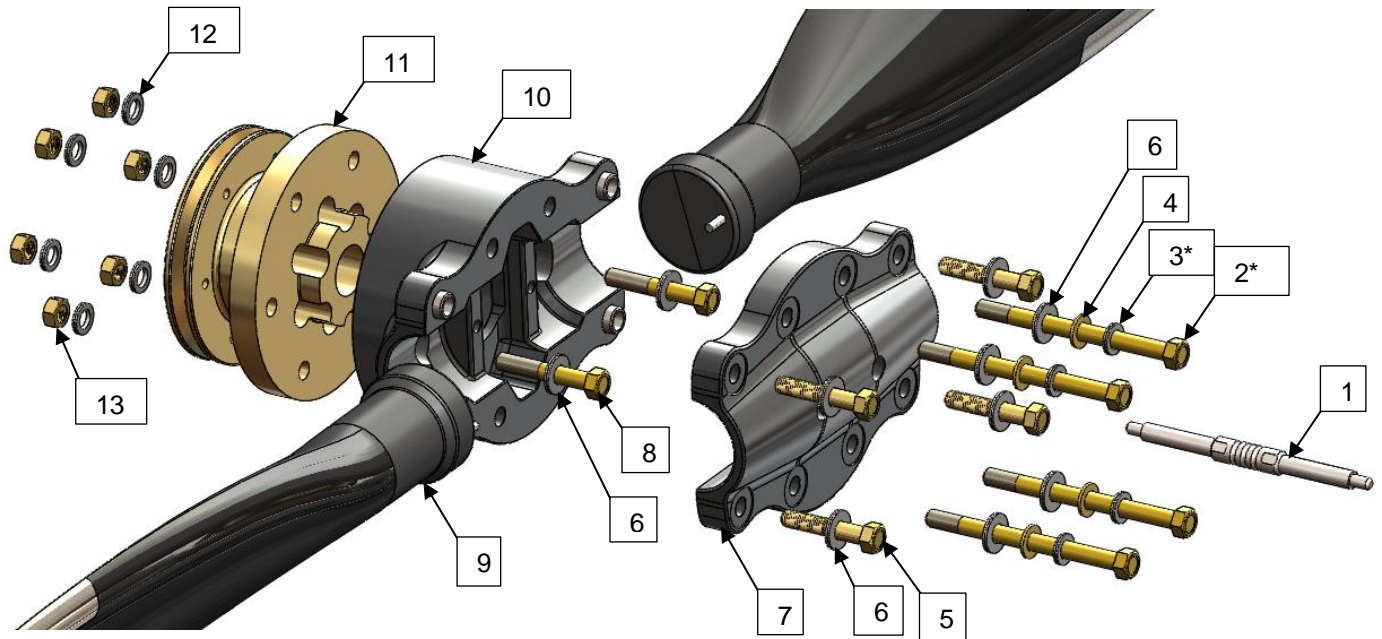

FIGURE 1. PROPELLER ASSEMBLY
1. Chock the aircraft wheels to prevent movement. Clean dirt and oil residue from the engine flange. Refer to **Figure 1** for a view of the two piece hub, blade, and pitch setting gage.
2. Place spacer (if required), rear spinner bulkhead (if used) and the hub mount, as shown in **Figure 1** on the propeller mounting flange. The hub must sit flush on the mounting flange.
3. Refer to **Figure 1** for a view of the two piece hub, blade, and pitch setting gage. Use the Nord-Lock "SP" large outer diameter lock washers, inner mount bolts, Nord-Lock small outer diameter lock washers, and lock nuts to secure the hub mount, rear spinner bulkhead (if used), and the spacer (if required) to the engine flange. Use Nord-lock "SP" large outer diameter washers against all hub faces. Use smaller outer diameter Nord-lock washers on engine flange to avoid interference with flange fillets. If hub serial number, engraved on hub halves ends in a number, the hub is rev0. If the serial number ends in a letter, the following does not apply. **FOR REV0 HUBS ONLY, If NO spinner bulkhead is used**, the AN6-50AS Custom long thru bolts require stacking a small outer diameter Nord-lock washer, AN960-616 flat washer, and a Nord-lock "SP" large outer diameter washers on propeller hub face. Washers must be stacked in this order to prevent loss of bolt torque.